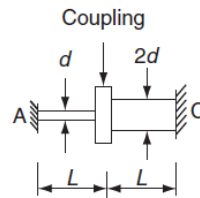

Figure 15 Question 29.
29. Two shafts AB and BC of equal length and diameters d and $2d$ are made of the same material (Figure 15). They are joined at B through a shaft coupling, while the ends A and C are built-in (cantilevered). A twisting moment T is applied to the coupling. If T_A and T_C represent the twisting moments at the ends A and C, respectively, then: